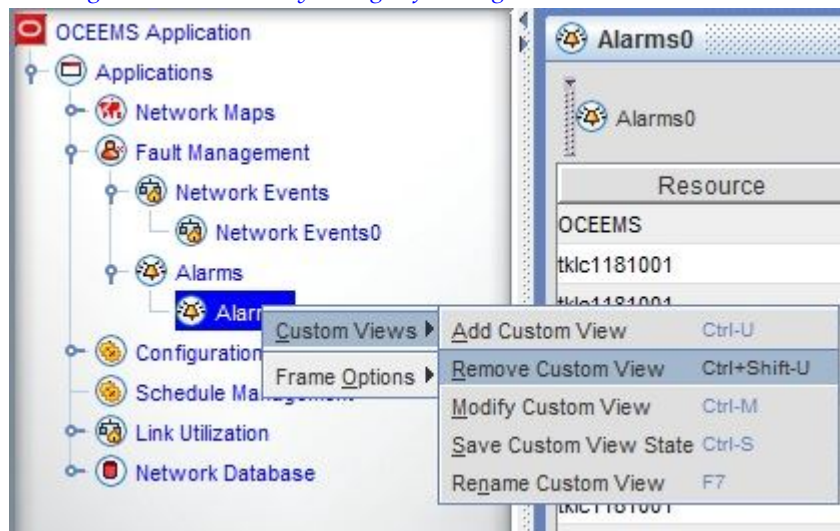

Figure 129: Deleting a Custom View By Using Left Navigation Pane
- Right-click on the custom view node under the Network Events/Alarms node in the left navigation pane, and choose **Custom Views > Remove Custom View** as shown in Figure 129: Deleting a Custom View By Using Left Navigation Pane.